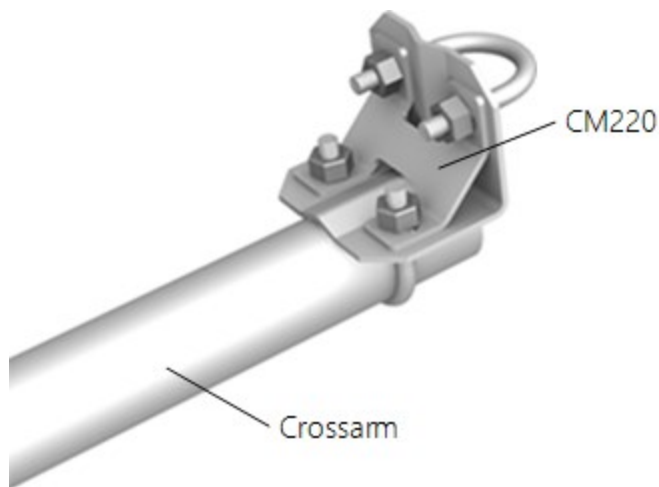

FIGURE 7-2. CM220 Right Angle Mounting Kit mounted to a crossarm
- CM220 Right-Angle Mounting Kit (FIGURE 7-2 (p. 13)), or